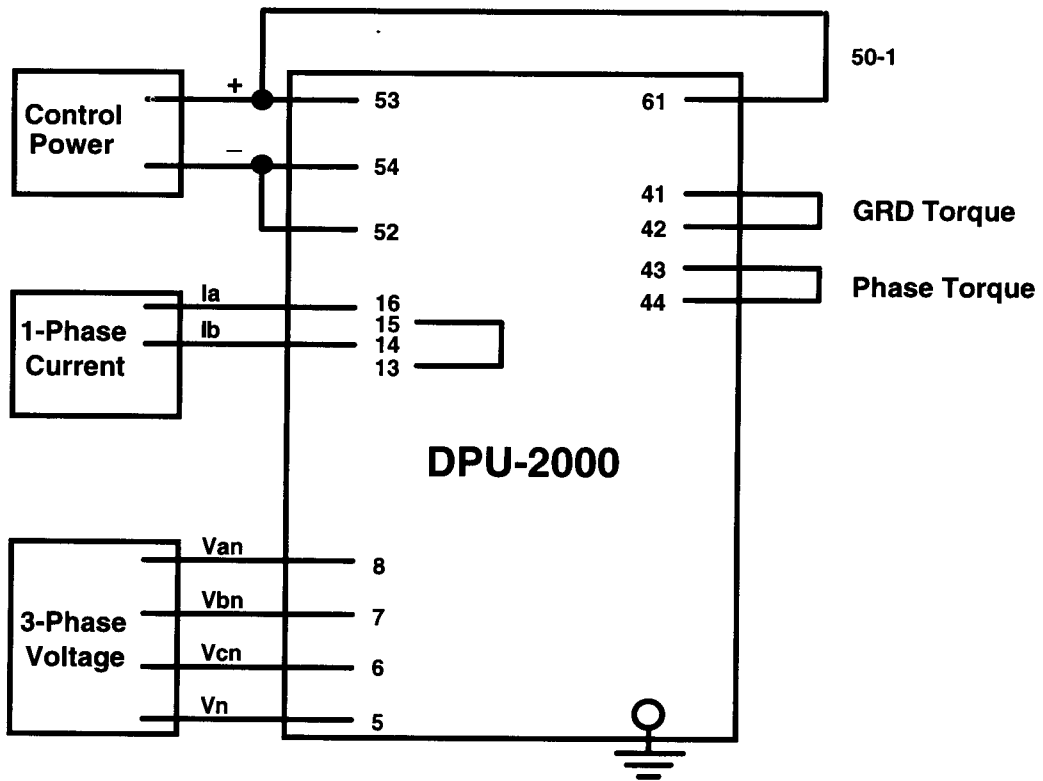

Figure 29. Test Circuit for Time Overcurrent, 50P-1, 2-Phase 50P, and 46 Functions
1. Connect the DPU-2000 as shown in Figure 29.
- a. Connect the DPU-2000 as shown in Figure 29.
- b. Connect the test set as shown in Figure 29.